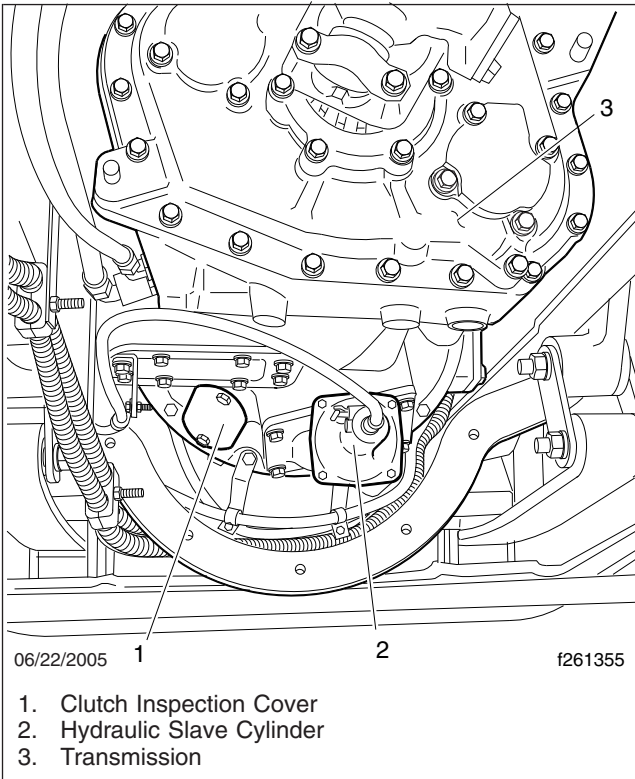

Fig. 8, View from Underneath the Vehicle
1. Remove the clutch inspection cover from the bell housing. See Fig. 8.